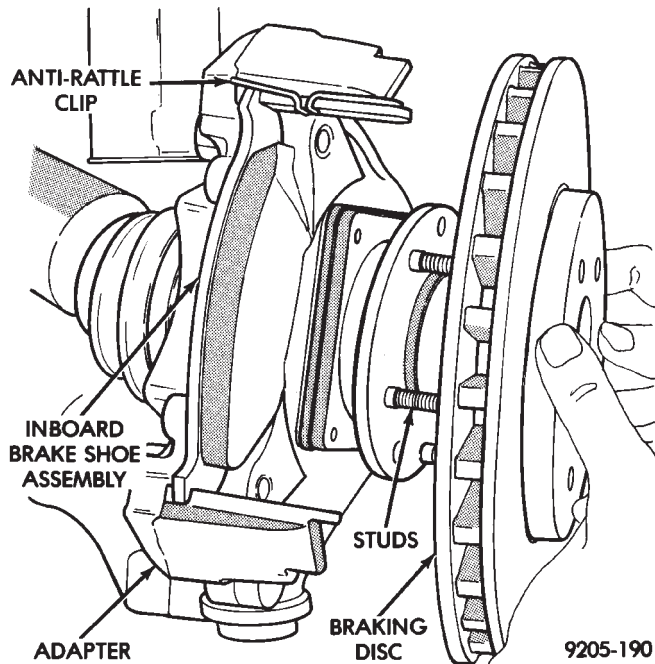
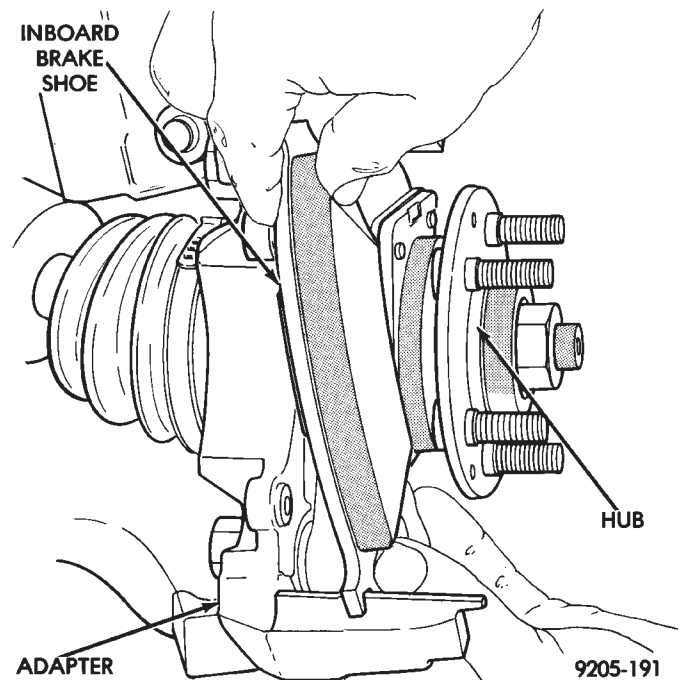

Fig. 6 Removing or Installing Braking Disc
Fig. 7 Removing or Installing Inboard Shoe Assembly
(9) Remove the braking disk (rotor) from the hub by pulling it straight off the wheel mounting studs (Fig. 6).
(10) Remove the inboard brake shoe assembly by sliding it out along the bottom adapter abutment until brake shoe assembly loosens from anti-rattle clip (Fig. 7).
(4) Remove the protective paper from the noise suppression gasket on both the inner and outer brake shoe assemblies (if equipped).
(5) Install the new inboard brake shoe assembly on the adapter by sliding it along the adapter abutments. Be careful not to get any grease from the adapter abutment on the surface of the brake lining material, (Fig. 7). Be sure inboard brake shoe assembly is correctly positioned against anti-rattle clip (Fig. 6).
(6) Reinstall the Braking Disk on the hub, by installing it over the wheel studs until it is seated against the face of the hub (Fig. 6).